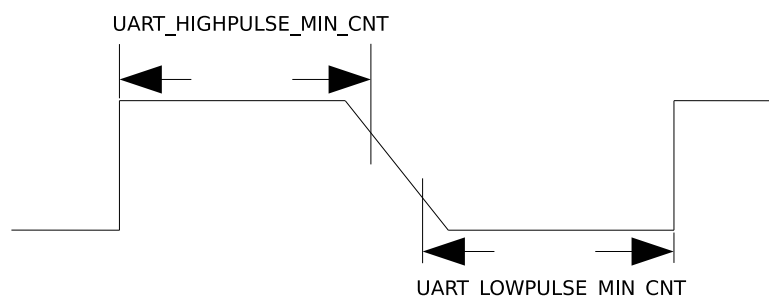

Figure 25-3. The Timing Diagram of Weak UART Signals Along Negative Edges
Automatic baud rate detection (Autobaud) on UARTs is enabled by setting `UART_AUTOBAUD_EN`. The Baudrate_Detect module shown in Figure 25-3 filters any noise whose pulse width is shorter than `UART_GLITCH_FILT`.
2. If UART signals are weak along negative edges as shown in Figure 25-3, which leads to an inaccurate average of `UART_LOWPULSE_MIN_CNT` and `UART_HIGHPULSE_MIN_CNT`, use `UART_POSEDGE_MIN_CNT` to determine the transmitter's baud rate as follows: